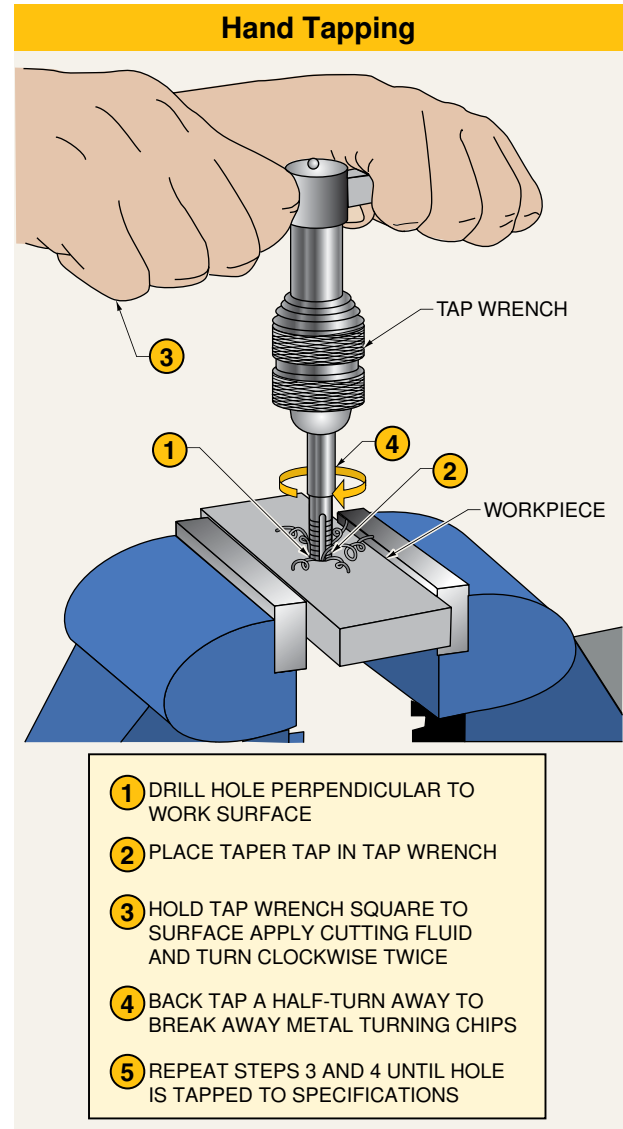

Figure 2-12. Hand tapping is performed by holding a tap square to a predrilled hole and turning in a clockwise motion.
1. Drill a hole perpendicular to the work surface. **See Figure 2-12.**